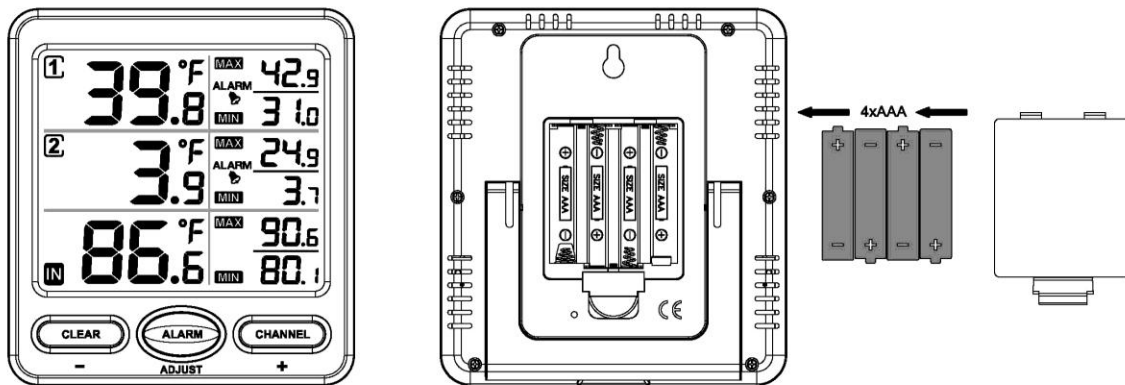

Figure 4
2. Remove the battery door on the back of the display, as shown in Figure 4. Insert four AAA